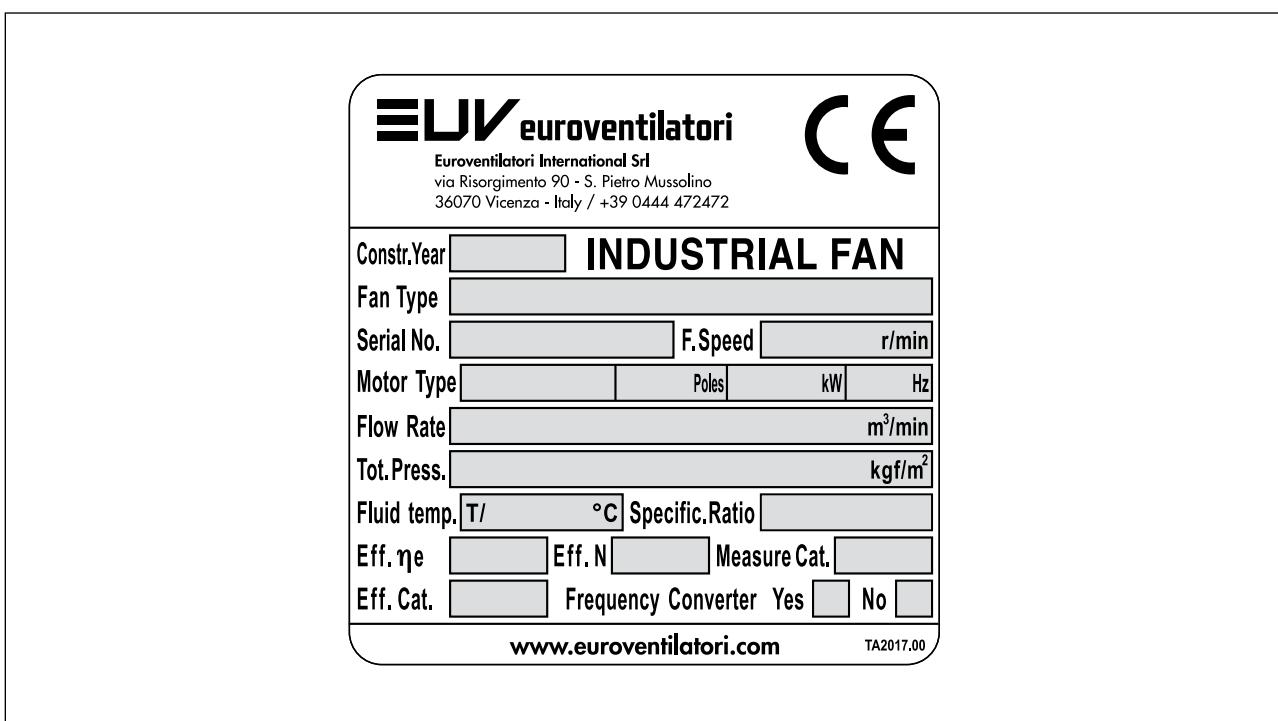

FIG. 1 (STANDARD rating plate)
1.3.1- STANDARD rating plate (FIG. 1)
The "STANDARD" plate (FIG. 1) applied on all fans not complying with the ATEX Directive, bears the following data in legible and indelible way: